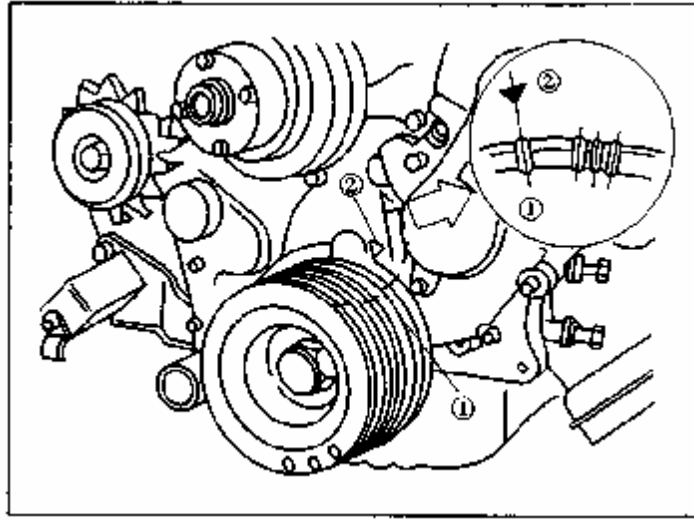

Figure 3-45 Nut to confirm first cylinder piston has reached TDC of compression stroke
(2)Rotate crankshaft till first cylinder piston reaches to TDC of compression stroke, and TDC mark line on crankshaft pulley ① aligns with timing mark ② (see figure 3-45).